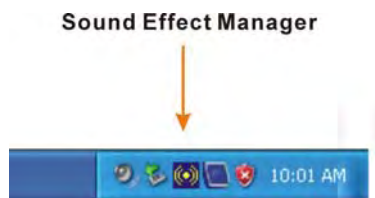

Figure C-2: Sound Effect Manager Icon [Task Bar]
- The Sound Effect Manager icon in the Notification Area of the system task bar (see **Figure C-2**), or